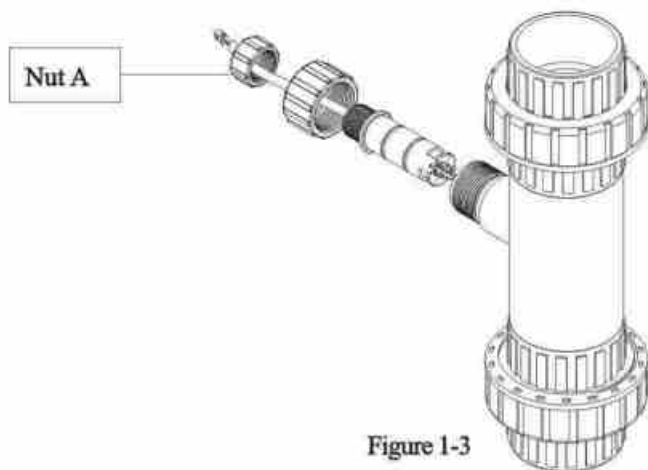

Figure 1-3
- B. When the flow meter stop measuring but the tested liquid still flow, it can check the work mode of probe online. Screw the probe nut A out, and check the working condition of the diode on the back of probe. If the diode always light on or off, it indicates the impeller in pipeline stop rotating. It shall stop pipeline working, release pressure in pipeline, and disassemble the probe to check if there is any foreign matter impact impeller rotating. After cleaning, if it can rotate normally by manually, and the diode works normally, it can continue to use after confirming the installation correct.(Refer figure 1-3)